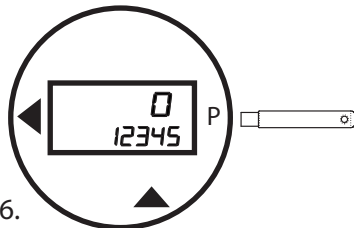

Figure 26.
- c. Pass the wand over **P**. This will end configuration mode and save your changes (Figure 26).